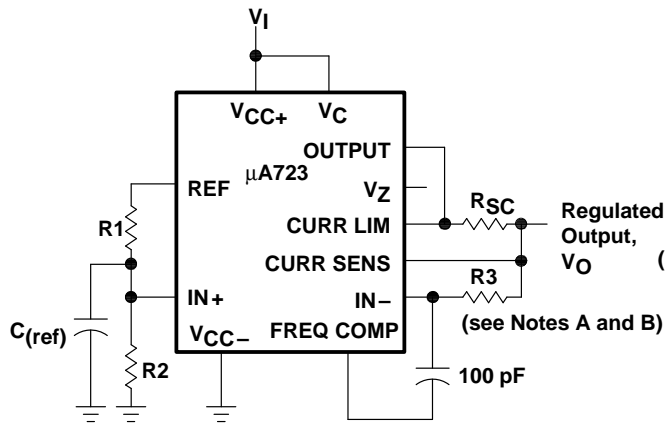
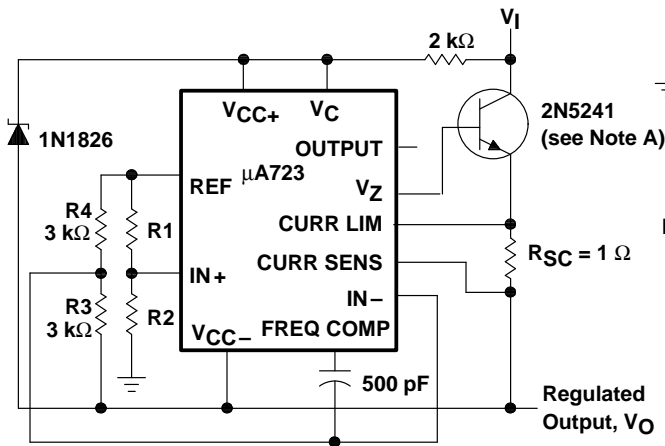

Figure 1. Basic Low-Voltage Regulator
Figure 7. Positive Floating Regulator
- NOTES: 2. For all values in this table, the device is connected as shown in Figure 1 with the divider resistance as seen by the error amplifier ≤ 10 kΩ. Unless otherwise specified, V_I = V_{CC+} = V_C = 12 V, V_{CC-} = 0, V_O = 5 V, I_O = 1 mA, R_{SC} = 0, and C_{ref} = 0.
- NOTES: 2. For all values in this table, the device is connected as shown in Figure 1 with the divider resistance as seen by the error amplifier $\leq 10\text{ k}\Omega$. Unless otherwise specified, $V_I = V_{\text{CC}+} = V_C = 12\text{ V}$, $V_{\text{CC}-} = 0$, $V_O = 5\text{ V}$, $I_O = 1\text{ mA}$, $R_{\text{SC}} = 0$, and $C_{\text{ref}} = 0$.
| <p>Outputs from 2 V to 7 V See Figures 1,5,6,9, 11, 12 (4) and Note 4</p> $V_O = V_{(ref)} \times \frac{R_2}{R_1 + R_2}$ | <p>Outputs from 4 V to 250 V See Figure 7 and Note 4</p> $V_O = \frac{V_{(ref)}}{2} \times \frac{R_2 - R_1}{R_1}$ <p>$R_3 = R_4$</p> | <p>Current Limiting</p> $I_{(limit)} \approx \frac{0.65 \text{ V}}{R_{SC}}$ |